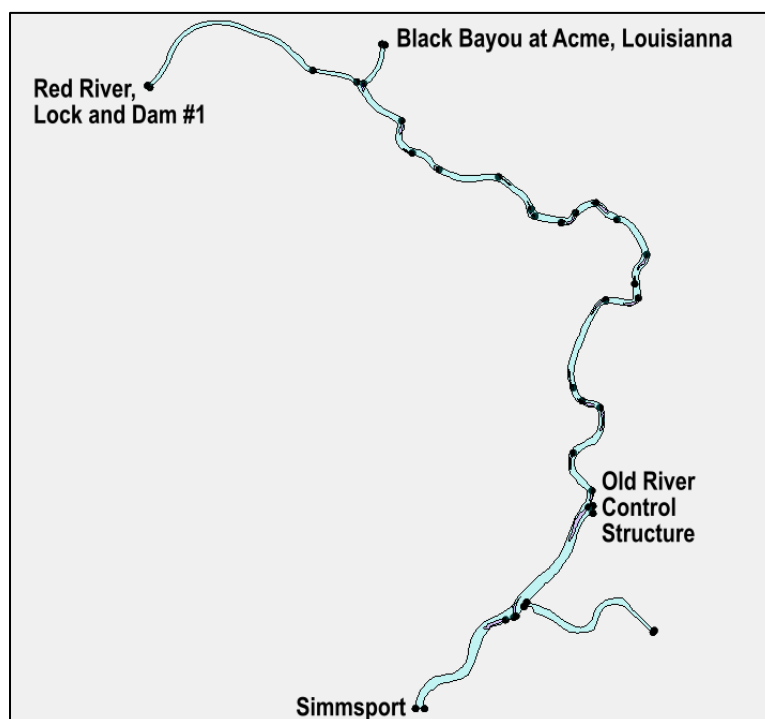

Figure 2 Boundary Condition arcs with locations labeled
AdH requires assigning boundary conditions to provide inlet discharge to the river and hydraulic properties of the exit discharge of the model. There are three locations where water flows into the model and one location where water is discharged from the model. The locations are shown in Figure 2. Red River, Lock and Dam #1, Black Bayou at Acme, Louisiana, and the Old River Control Structure are inflow boundaries while the Simmsport defines the downstream end of the simulation where flow leaves the domain.
4. Using the **Select Feature Arc**  tool, double-click on the arc at the upstream end of the river labeled “Red River, Lock and Dam 1” in Figure 2 to open the *Arc Attributes* dialog.
12. Using the **Select Feature Arc**  tool, double-click on the arc labeled “Simmsport” in Figure 2 to open the *Arc Attributes* dialog.